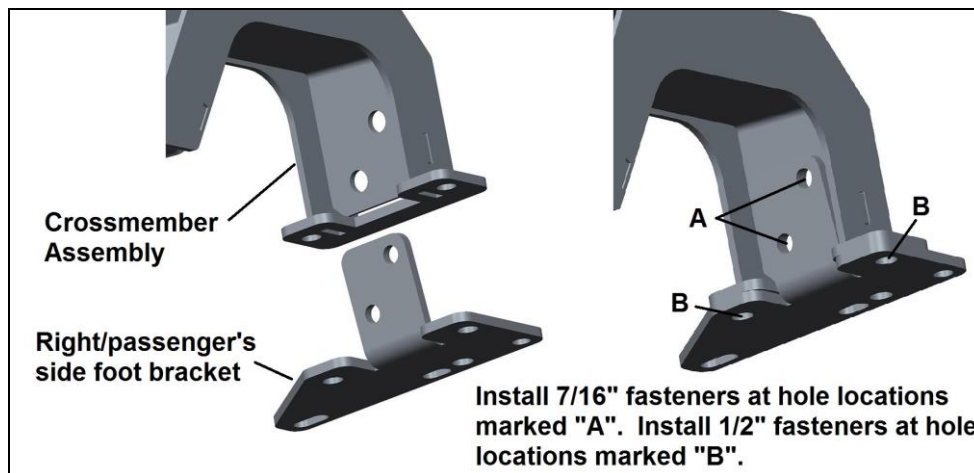

Figure 1
4. Position the supplied right/passenger's side crossmember foot bracket between the crossmember and the vehicle frame and attach the foot to the crossmember using the supplied 7/16" and 1/2" bolts and nuts as indicated below in **Figure 1**. Install the 1/2" bolts from the bottom of the crossmember with the bolt heads facing the ground.